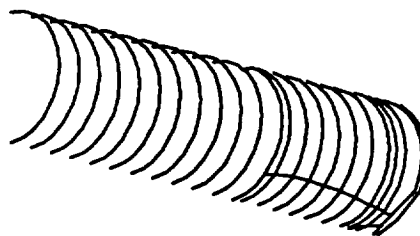

FIGURE C.34.
17. Add wing connection breaks as shown in figure C.34 (not all stations are shown in the figure).